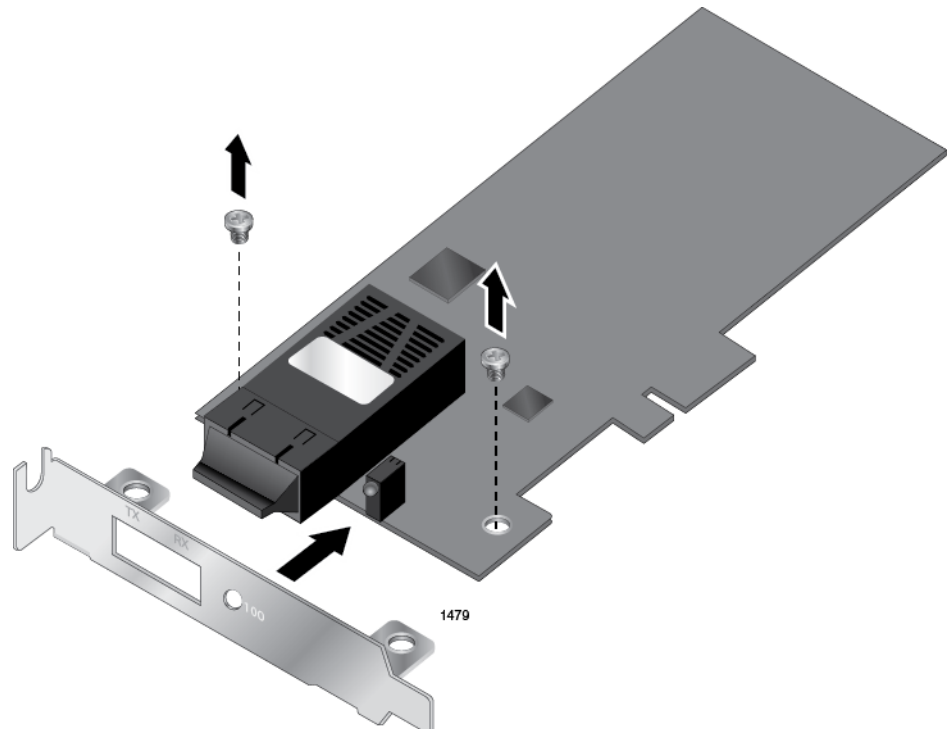

Figure 4. Removing the Low-Profile Bracket
1. Remove the screws that attach the bracket to the adapter card. See Figure 4.